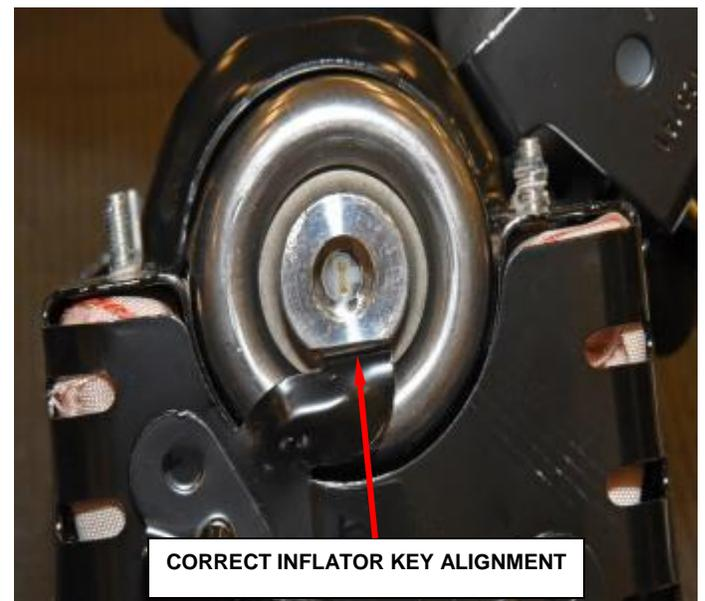

Figure 61 – Check for Inflator Key Alignment
- q. Ensure that the inflator’s key is still lined up with the housing’s key (Figure 61).